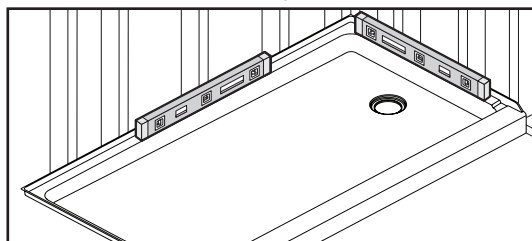

FIGURE 2. Check to assure base is level.
- a. Trial fit base in prepared alcove. With base sitting flat on floor ensure base is level (Fig 2).